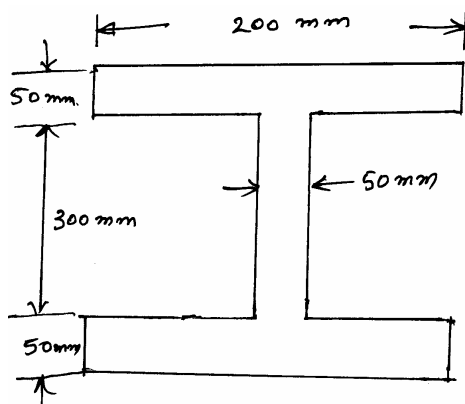

Fig.Q6(b)
- b. Draw shear stress distribution for an I - shaped section of a beam as shown in Fig.Q6(b). The shear force on this section is 200 kN. (16 Marks)